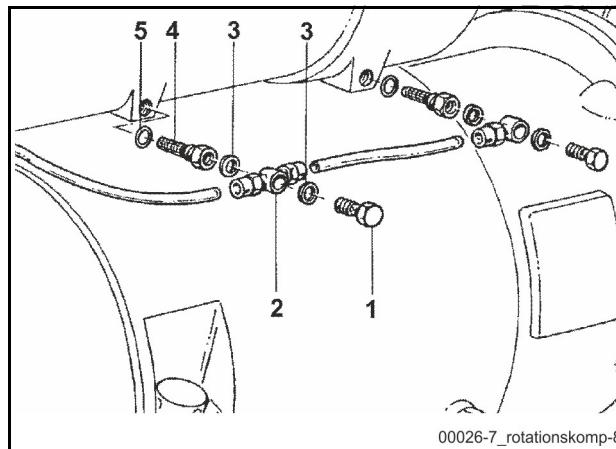

Fig. 365 Oil return valves
- Loosen the hollow screws **(1)** **(Fig. 365)**.